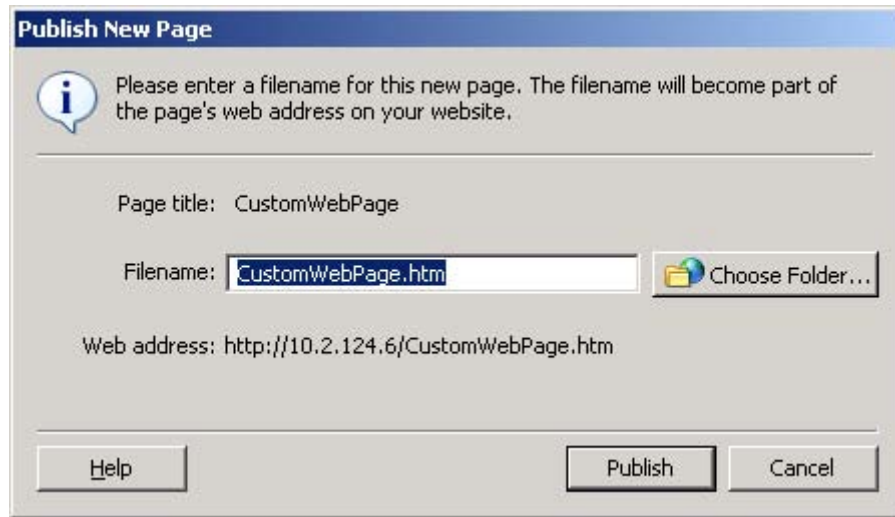

Figure 13.6 Publish New Page Window
10. Click **Publish**. A window opens, advising you that visitors to the Web site will not be able to view the page unless you link to it from another page. Click **Yes** to continue. The window shown in Figure 13.6 opens.